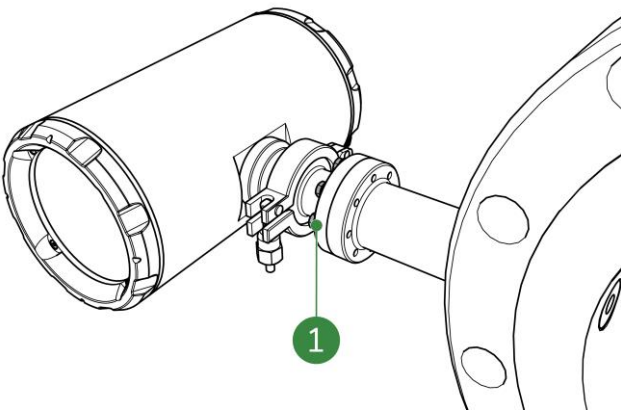

Figure 5-13: Placing the screws
8. Place the eight bolts (with their washers) through the holes of the SDM ECO's flange, into the threaded holes of the receiving flange (Figure 5-13).